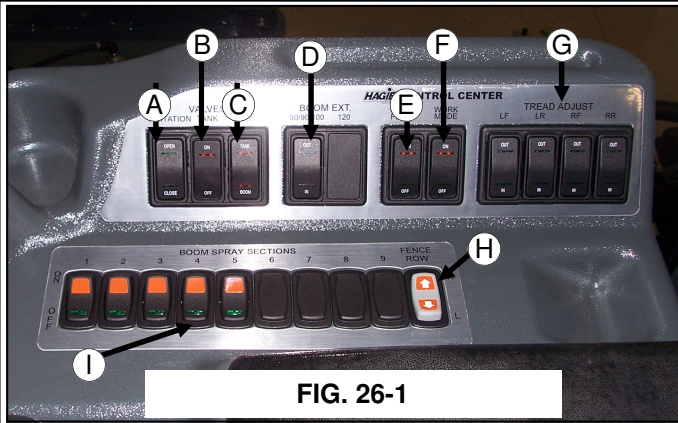

FIG. 26-1
**AGITATION SWITCH-** The agitation switch (fig. 26-1, item A) controls the rate of flow through the sparge system. For more information on the agitation system, refer to OPERATING SYSTEMS section D on the Spray Systems.
**TANK SWITCH-** The tank switch (fig. 26-1, item B) controls the solution tank valve. This switch must be on to spray. For more information on the
**RINSE SWITCH-** The rinse switch (fig. 26-1, item C) is used when you wish to rinse the solution tank or the booms. For more information on how to use the rinse system, refer to OPERATING SYSTEMS section F on the rinse system.
**BOOM EXTENSION SWITCH-** Boom extension (fig. 26-1, item D) switches are used when folding and unfolding the booms. Refer to OPERATING SYSTEMS section C on spray booms.
**WORK MODE SWITCH-** The work mode switch (fig. 26-1, item F) is a safety switch. There are systems controlled by this switch that will not function if the switch is not ON. The switch can not be turned on if certain conditions exist. You can not turn the switch on if the machine is not in neutral. The switch controls the functions of the spray system and detasseling system. This was set up to protect you, the operator, and others from accidentally engaging certain systems while transporting. Be sure that this switch is on before you intend to engage the spray or detasseling system.
**TREAD ADJUST SWITCH-** The tread adjust switches (fig. 26-1, item G) are used to hydraulically adjust the tread width. These switches will not do anything if you do not have hydraulic tread adjust. For more information on hydraulic tread adjustment, refer to OPERATING SYSTEMS section C on the hydraulic system.
**FENCE ROW SWITCH-** The fence row switch (fig. 26-1, item H) is for the selection of right or left fence row spray nozzle. More information on the fence row can be found in OPERATING SYSTEMS section D on the spray system.
**BOOM SOLUTION VALVE SWITCH-** The boom solution valve switches (fig. 26-1, item I) each control a valve located on the transom and the booms. The valves control the flow of solution through the boom. The boom is broken down into 5 sections (3 sections on a 60' boom), the far left tip being the beginning of section one. See section E under OPERATING SYSTEMS on the spray system for more information.